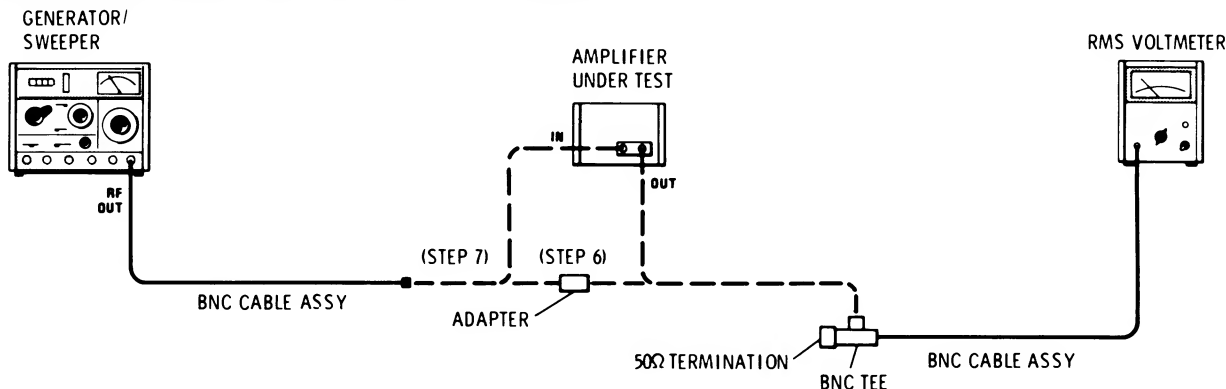

Figure 4. Flatness and Mean Gain Test Setup: 100 kHz to 10 MHz
- 6. Disconnect the sweep oscillator and the power meter from the amplifier. Connect the equipment as shown in Figure 4. Set the generator/sweeper for a 10 MHz, CW signal; set the signal level for -40 dB (read on the voltmeter).